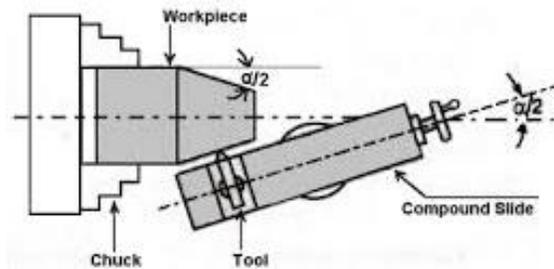

Figure Turn-28: compound rest adjustment
6. As in figure Turn-28, adjust the compound rest with an appropriate tapering angle, as in next figures: